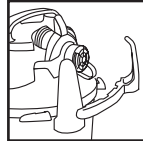

FIGURE 11
10. With rear of unit facing you, take hose holder and position it with tabs facing rear of unit. **FIGURE 11.**